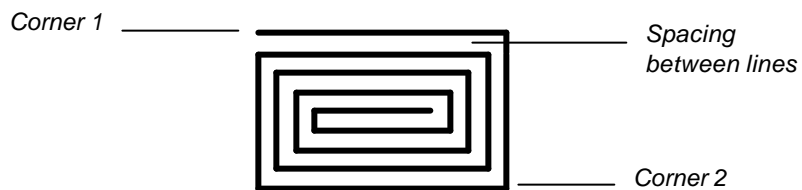

Figure 8-6
- ▶ The spacing is in inches and represents the spacing between each line as shown in Figure 8-6.